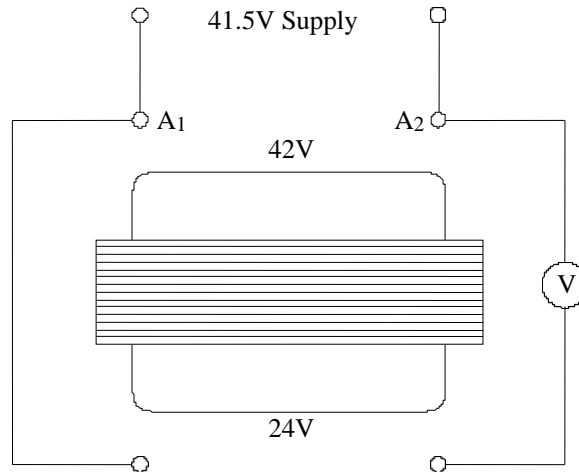

Figure 1
- Using the transformer on the left of the three transformers provided, connect the circuit as shown in figure 1.